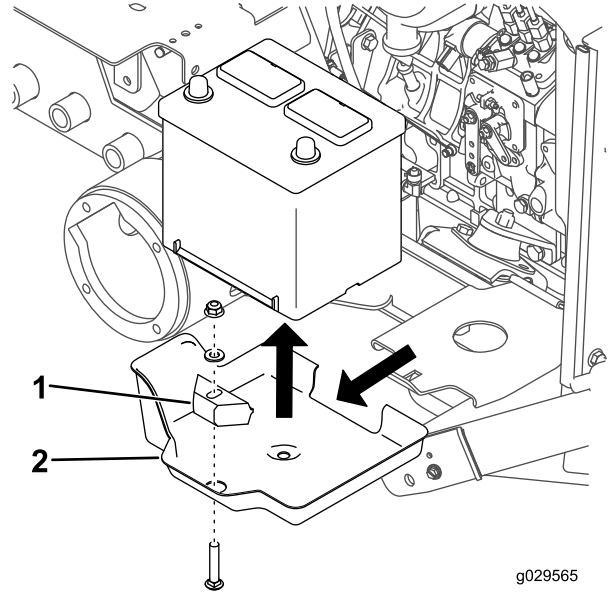

Figure 38
3. Remove the carriage bolt, washer, battery hold-down, and nut securing the battery (Figure 38).
4. Remove the battery from the battery tray (Figure 38).
5. Remove the battery tray from the battery platform (Figure 38).